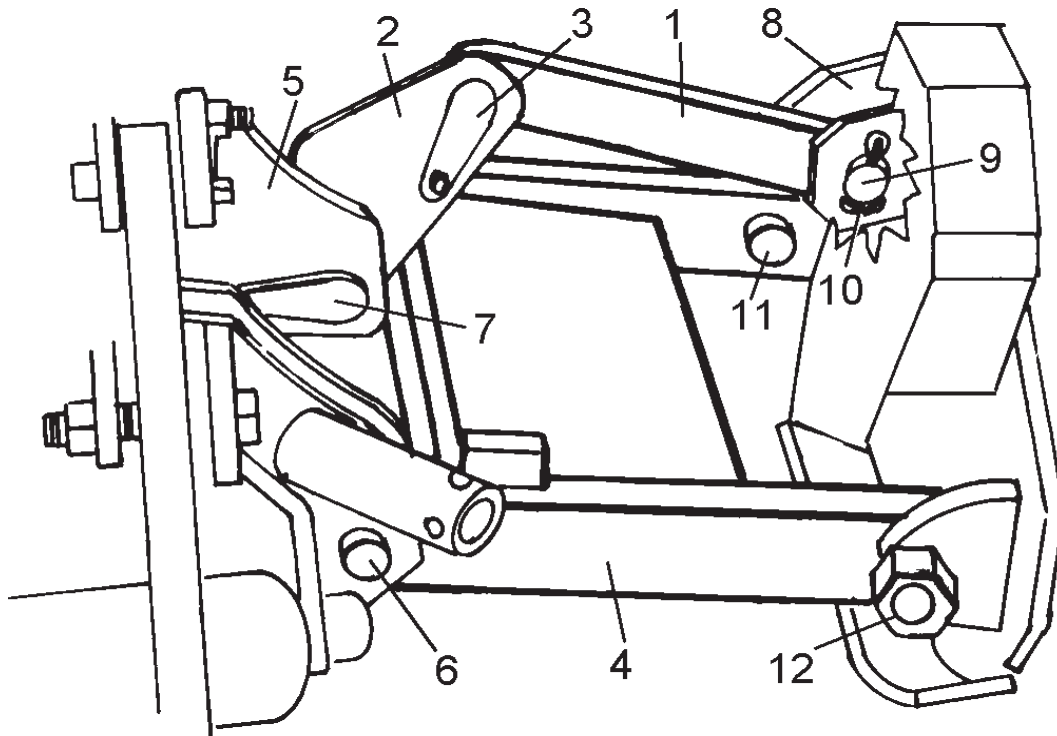

FIGURE 9
To attach wing mower to mainframe. Align tilt link (1) with actuator (2) and retain with pin (3). Proceed to lift frame (4) and align with lug on mainframe (5), retain with pin (6) and with pin (7). Secure all pins with 1/2" x 1 1/2" bolt and 1/2" nut. **Figure 9.** Pin (3) will be secured with bolt that also secures pin for cylinder.
Align toplink (1) to mower lugs (8), retain with pin (9) and lock with cotter pins (10). Align lift frame (4) with lugs at bottom of mower, retain with pivot pin (11) and lock with nut (12). **Figure 9.**
**Note:** Use a thread locking material to secure nut (12) to pivot pin.